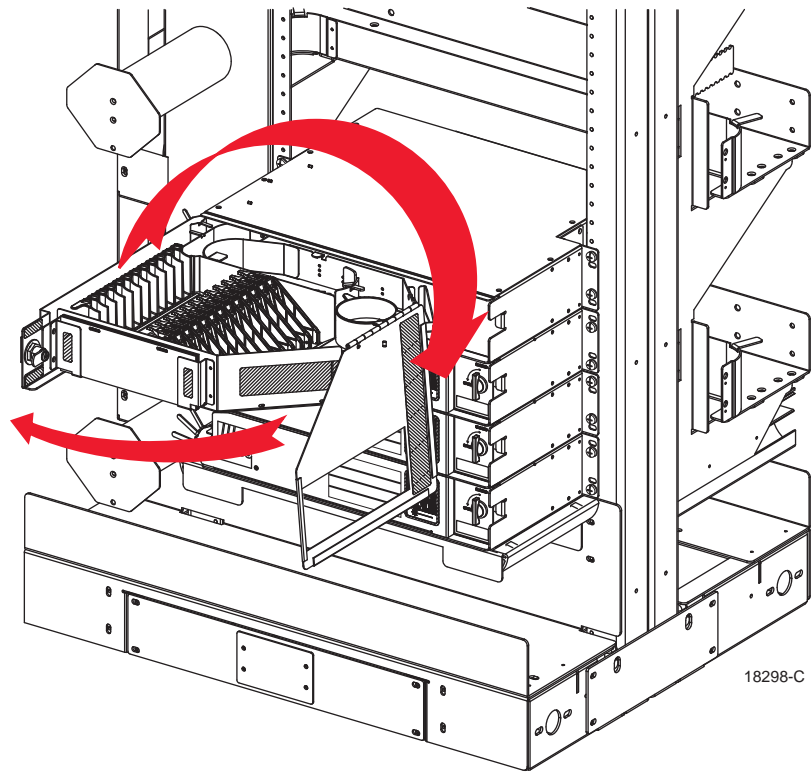

Figure 17. Opening the Hinged Drawer
2. Swing out the drawer as shown in Figure 17.